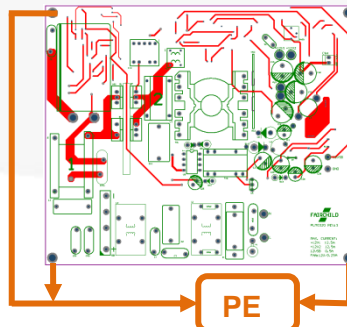

Figure 24. Setting of EMI Test
Figure 24 shows, this EVB is design and test with the metal case. If the user wants to perform an EMI conduction test, connect power earth (PE) to secondary ground point and flowing point of Y-cap C9.